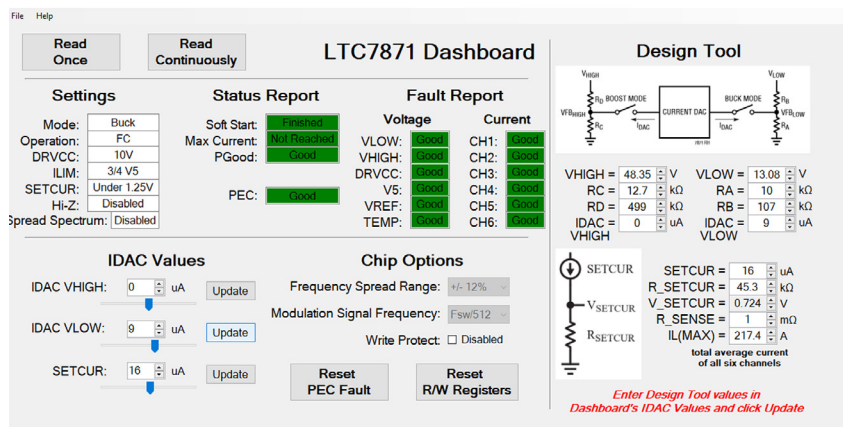

Figure 8. LTC7871 QuikEval GUI (Design Tool Only Available When Enabled from the File Menu)
8. Use QuikEval to monitor and control the LTC7871. The LTC7871 QuikEval GUI is shown in Figure 8. The dashboard is on the left and an optional design tool is on the right.